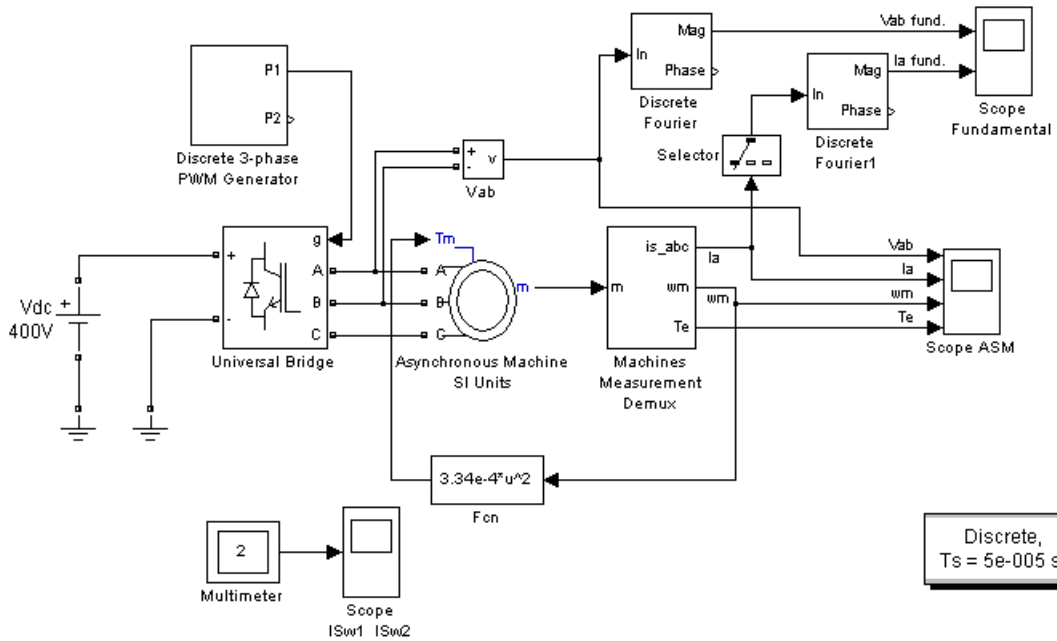

Figure 2-3: Circuit 5: PWM Control of an Induction Motor
Variable speed control of AC electrical machines makes use of forced-commutated electronic switches such as IGBTs, MOSFETs, and GTOs. Asynchronous machines fed by *pulse width modulation* (PWM) voltage sourced converters (VSC) are nowadays gradually replacing the DC motors and thyristor bridges. With PWM, combined with modern control techniques such as field-oriented control or direct torque control, you can obtain the same flexibility in speed and torque control as with DC machines. This section shows how to build a simple open loop DC drive controlling an asynchronous machine. A more elaborate example of a PWM drive is presented in Chapter 3, “Case Studies.” The SimPowerSystems circuit to simulate is shown in Figure 2-3. It uses blocks from the Machines and Power Electronics libraries.
- 5 Using Ground blocks from the Elements library, complete the power elements and voltage sensor interconnections as shown in Figure 2-3.
Open its menu and set **Element** to 1. Connect the Selector output to the second Discrete Fourier block and its input to the `is_abc` output of the Machines Measurement Demux block as shown in Figure 2-3.
Connect the four inputs and label the four connection lines as shown in Figure 2-3. When you start the simulation, these labels are displayed on top of each trace.
current. Connect the two inputs to the outputs of the Fourier blocks. Label the two connection lines as shown in Figure 2-3.